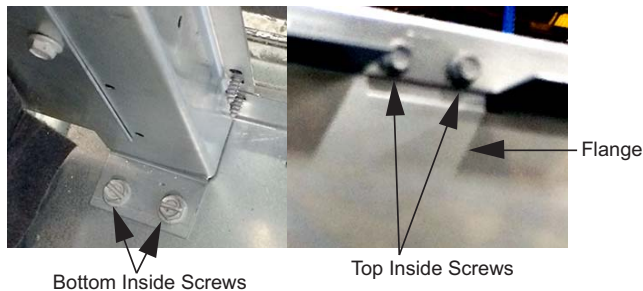

Figure 6 - Top and bottom inside screws
- c. Use a 3/8 in. hex socket to remove the two inside top and bottom screws. Save the screws and bracket for later use. See Figure 6.